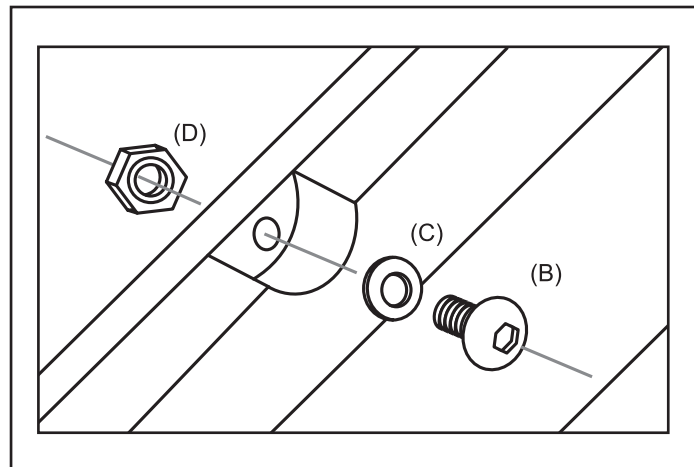

FIG. 4
Install the Decorative Rivets by placing a Washer (C) onto a Rivet Screw (B), then inserting it into a hole in each recess on the flare. Place a Lock Nut (D) onto the screw, As shown in FIG 4. Use the Torx Bit (E) and a wrench to tighten securely in place.